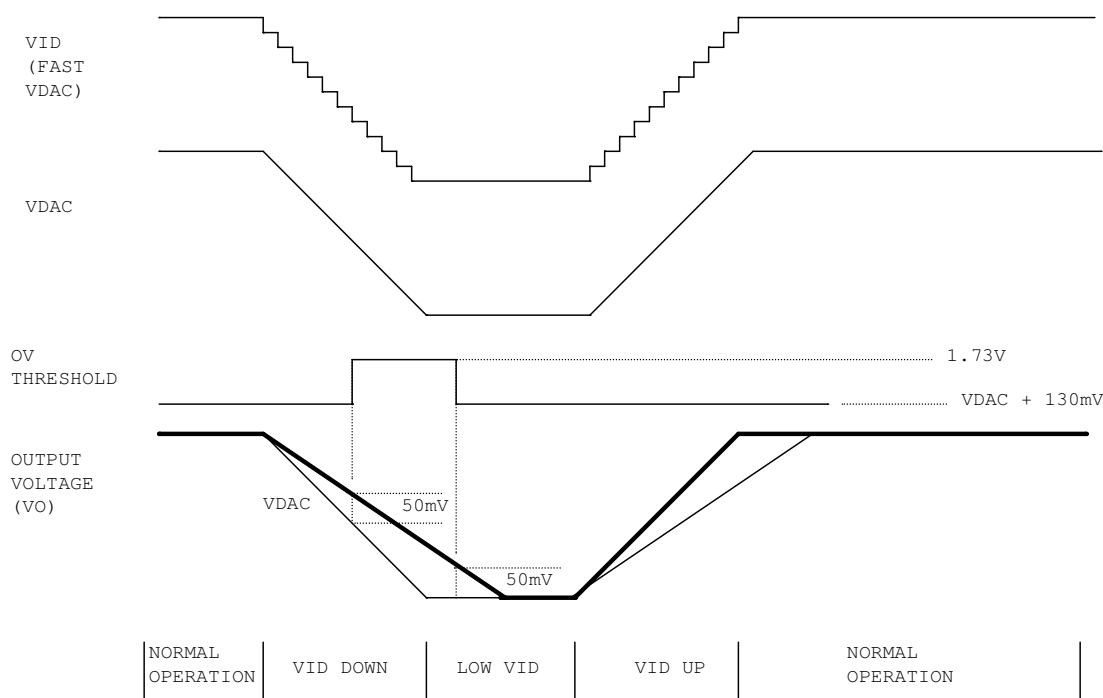

Figure 17 Over-voltage protection during dynamic VID
If either remote sense line VOSEN+ or VOSEN- or both are open, the output of remote sense amplifier (VO) drops. The IR3502 monitors VO pin voltage continuously. If VO voltage is lower than 200 mV, two separate pulse currents are applied to VOSEN+ and VOSEN- pins respectively to check if the sense lines are open. If VOSEN+ is open, a voltage higher than 90% of V(VCCL) will be present at VOSEN+ pin and the output of open line detect comparator will be high. If VOSEN- is open, a voltage higher than 700mV will be present at VOSEN- pin and the output of open-line-detect comparator will be high. The open sense line fault latch is set, which pulls error amplifier output low immediately and shut down the converter. The SS/DEL voltage is discharged and the fault latch can only be reset by cycling VCCL power. During dynamic VID down, OVP may be triggered when output voltage can not follow VDAC voltage change at light load with large output capacitance. Therefore, over-voltage threshold is raised to 1.73V from VDAC+130mV whenever dynamic VID is detected and the difference between output voltage and VDAC is more than 50mV, as shown in Figure 17. The over-voltage threshold is changed back to VDAC+130mV if the difference is smaller than 50mV.